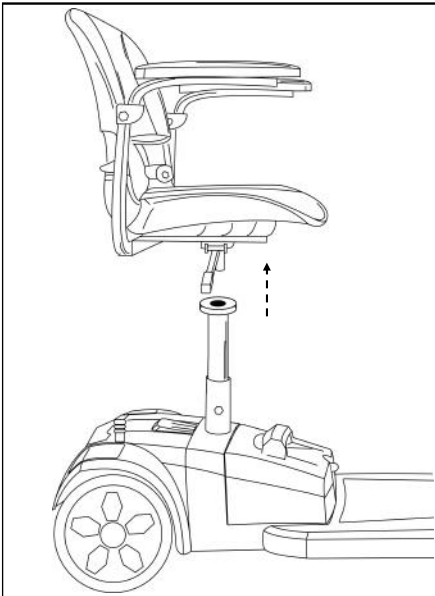

Figure 9
1. Fold the seat back down, grasp the seat on both sides and lift the seat up and off of the seat pedestal. See Figure 9. (*Note: Seat arms can be removed to reduce the seat weight*).
1. Position the seat for safe and easy mounting. Ensure that the seat is facing forward. See figure 9.